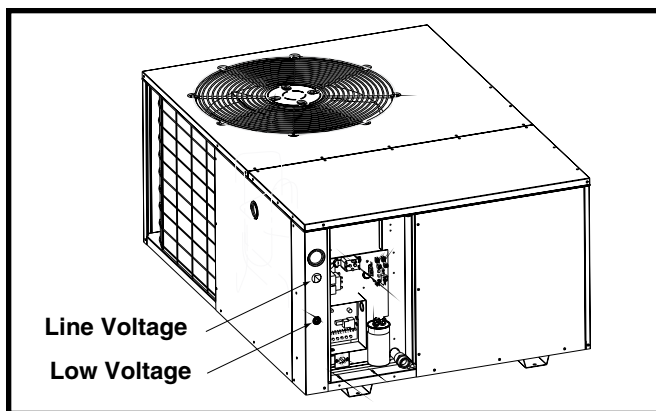

Figure 7. Power Entry
- Provide power supply for the unit in accordance with the unit wiring diagram, and the unit rating plate. Connect the line-voltage leads to the terminals on the contactor inside the control compartment. Extend leads through power wiring hole (Figure 7). Connect L1 & L2 directly to the contactor.
- The low voltage wires must be properly connected. Route 24V control wires through the sealing grommet near the power entrance. See Figure 7. Recommended wire gauge and wire lengths for typical thermostat connections are listed in Table 1.